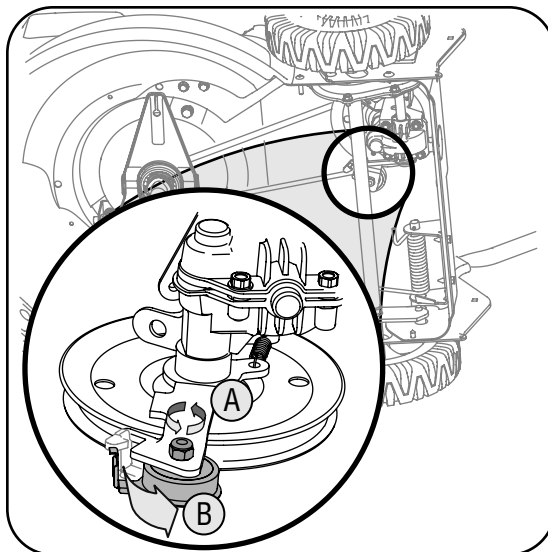

Figure 5-7
- a. Tilt the transmission forward and loosen the idler pulley bolt and lock nut half a turn. See Figure 5-7.